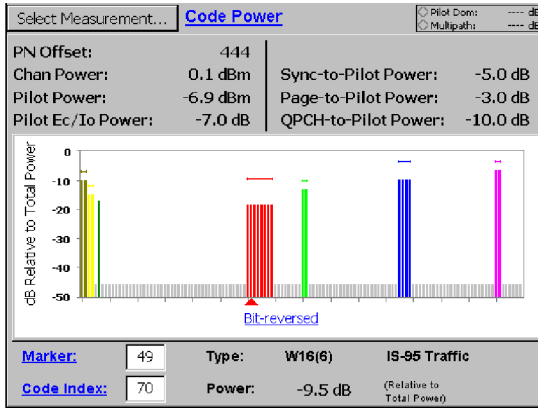

Figure 3-53: cdma2000 Code Power display
5. Tap **Code Power**. See Figure 3-53.